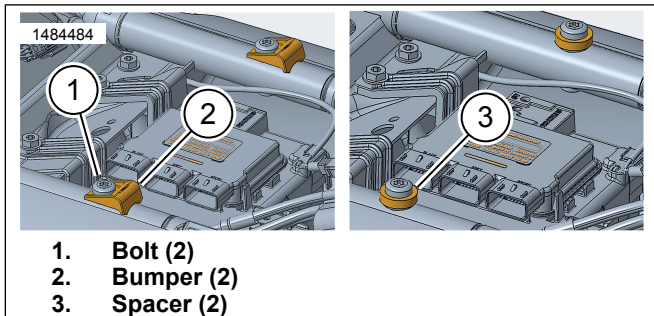

Figure 2. Bumper Removal / Spacer Install
1. Figure 2 Remove Bumpers.
- a. Remove bolts (1). Retain.
- b. Remove bumpers (2). Discard.
- c. Install spacers (3).
- d. Install Original Equipment (OE) bolts (1). Tighten. Torque: 43.4–49 N·m (32–36 ft-lbs)